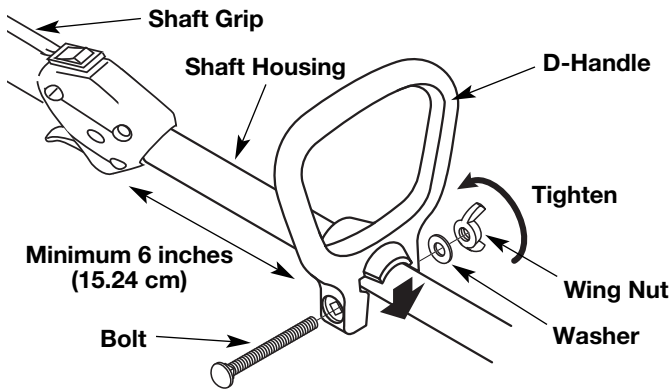

Fig. 1
1. Push the D-handle down onto the shaft housing so that the handle slants towards the shaft grip (Fig. 1). The squared bolt hole in the handle is to the right.